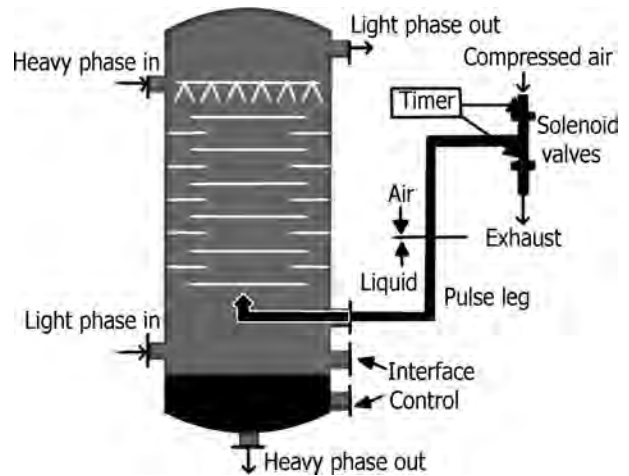

FIGURE 17.55 Pulse column.
- Figure 17.55 is a typical pulse column.